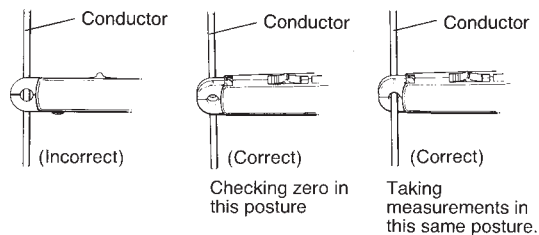

Fig. 4.
(4) Since the 2A DC tange is designed with very high sensitivity, earth magnetism affects the display reading by several counts (for DC currents only). When checking to see if the display reads zero near the conductor under test, hold the instrument in the same posture as where it is used to clamp on the conductor. Refer to Fig. 4.